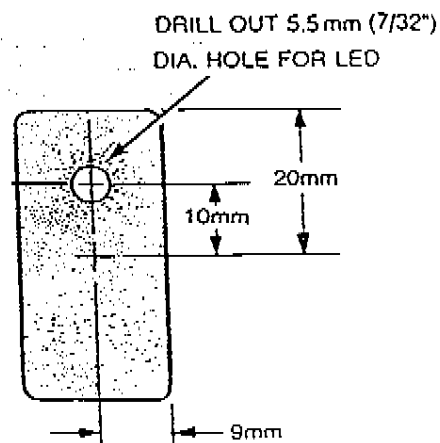

FIGURE 15
2. See Figure 15 . Locate and mark center of the knock out panel for LED mounting.